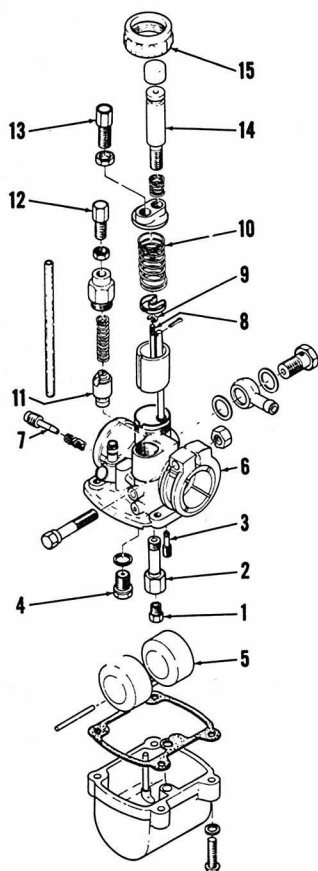
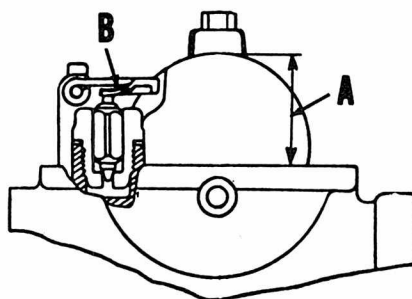

Fig. Y13-1—View of VM type carburetor used on G5 and G6 models.
Fig. Y13-2—Float level (A) should be 0.8 inch and is adjusted by bending tang (B). Both floats should have equal height.
**CARBURETOR.** A Mikuni VM16SC is used on all models. Air screw (7—Fig. Y13-1) should be  $1\frac{3}{4}$  turns out from seated position on G5-S and G6-S street models and  $1\frac{1}{2}$  turns out on Trailmaster G5-T models. Float level (A—Fig. Y13-2) should be 0.80 inch (20.5 MM) and is adjusted by bending tang (B). Refer to Fig. Y13-1 and the following standard specifications.